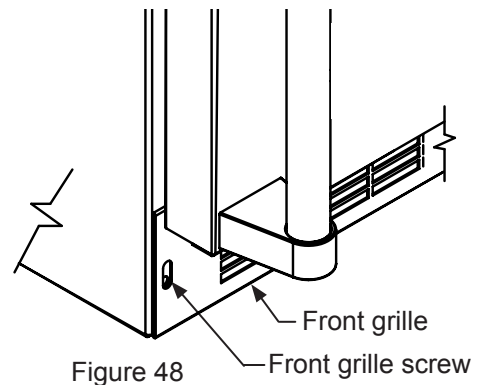

Figure 48
12. Remove the front toe-grille, (see Figure 48 and Figure 49), and use a brush and vacuum to clean dirt and debris from beneath the unit.